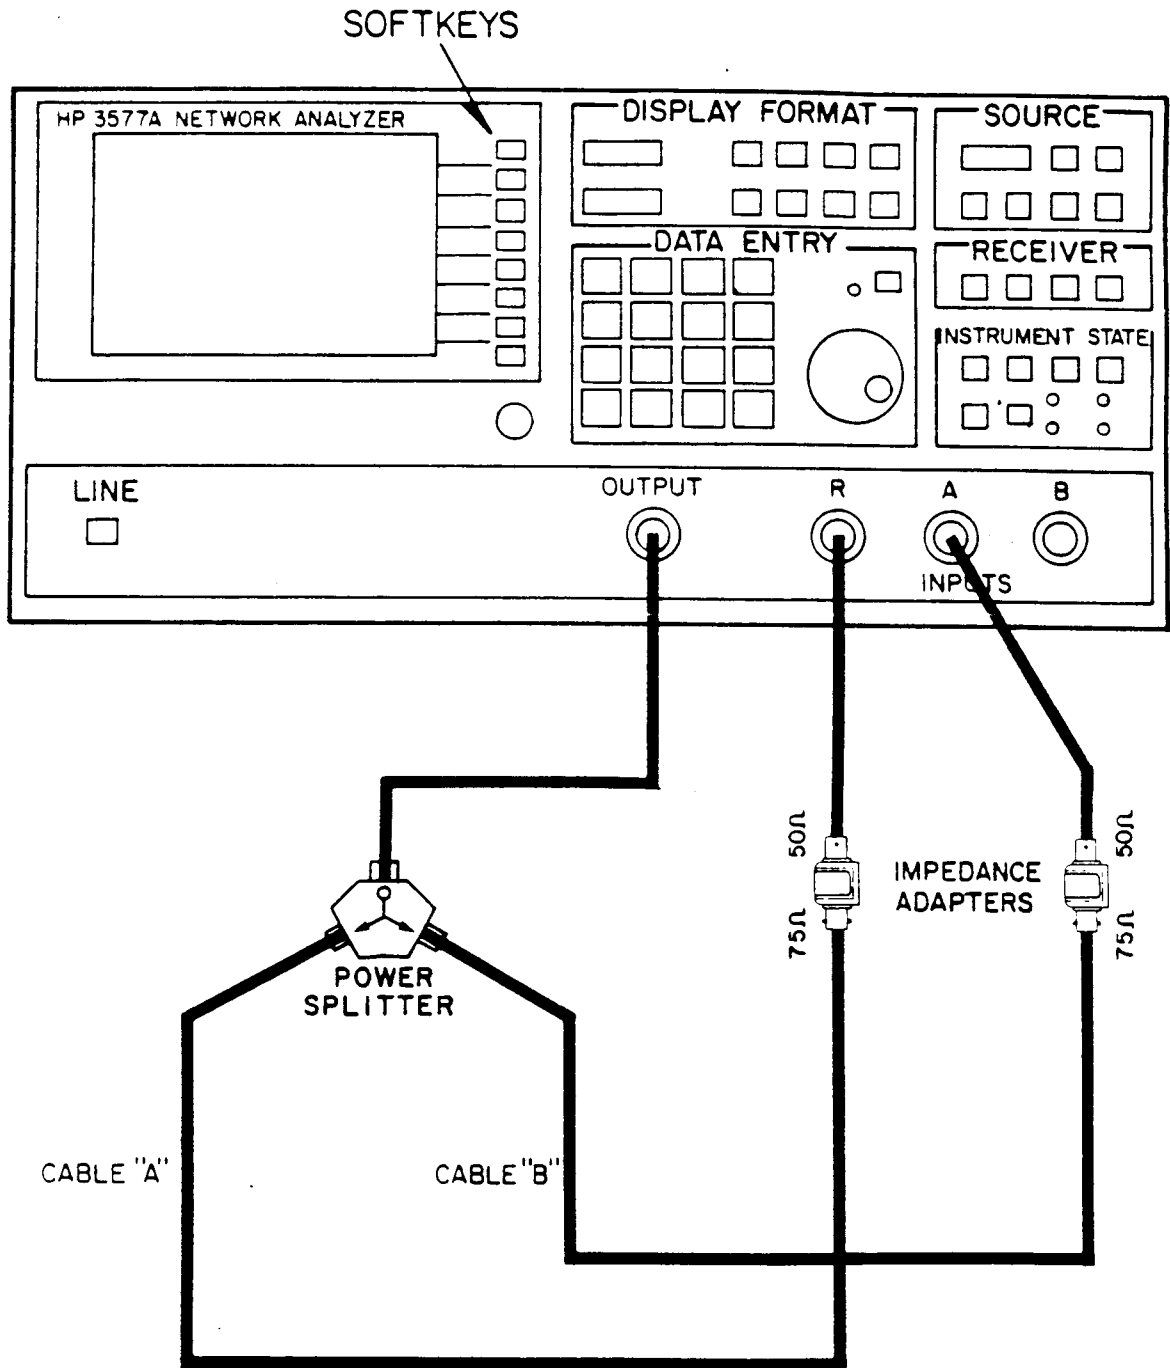

FIGURE 2-49. HP 3577A Network Analyzer Test System, Calibration Setup.
- c. Connect equipment shown in Figure 2-49 for the preliminary calibration of the Network Analyzer. Connect impedance adapters directly to the HP 3577A Network Analyzer to reduce unnecessary cabling.
- (1) DISPLAY FORMAT key to display input menu.
- (2) SOFTKEY to select input.
- (3) DISPLAY FORMAT key to display function menu.
- (4) SOFTKEY used to select the Log Mag function of the active trace.